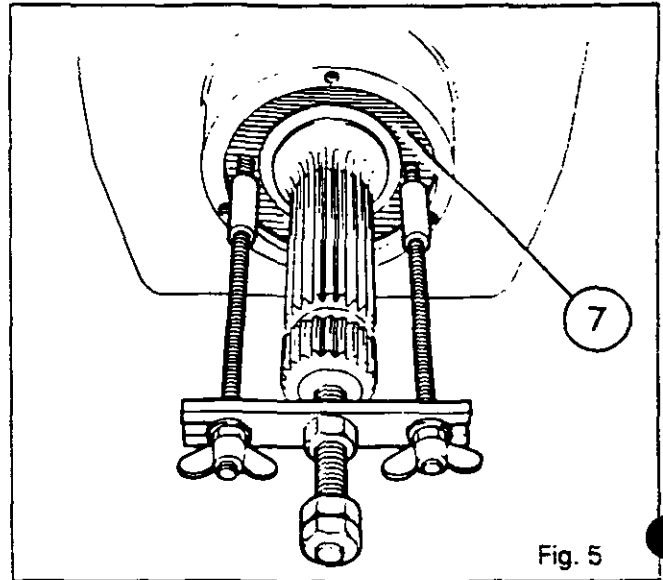

Fig. 5
**Note:** On the outer face of pin (16) held by plate (57), the end of the hole is blanked by a rivet (56).
25. Remove the guards (8) and (14) (depending on type).
26. using tool MF 460 (section F) fitted with a sleeve of suitable length, remove the retainer ring (46).
27. Remove the circlip (71).
28. Extract the seal holder (7) with the sealing bush (10) using the locally manufactured tool (section F) (see Fig. 5).